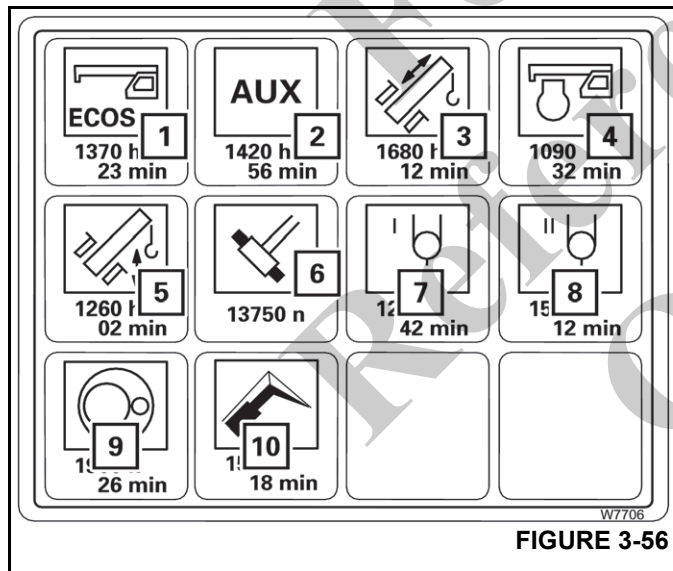

FIGURE 3-56
NOTE: The value below the Unlock telescopic section symbol (6) (Figure 3-56) indicates how often the cycle has been operated, e.g. 13,750 times.